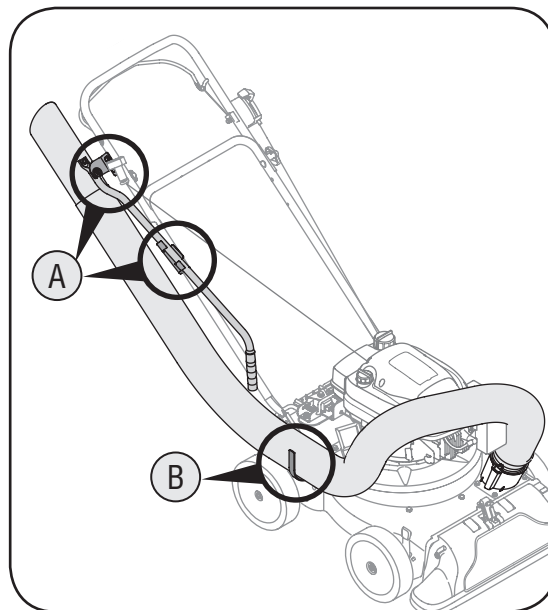

Figure 3-6
6. a. Snap the hose handle first into the upper hose handle bracket and then into the lower hose handle bracket. See Figure 3-6.